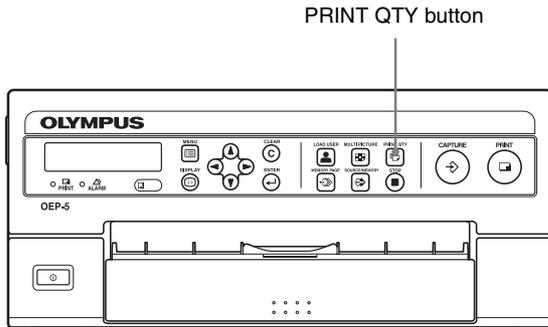

Figure 4.4
- 1 Press the “PRINT QTY” button on the front panel (see Figure 4.4).